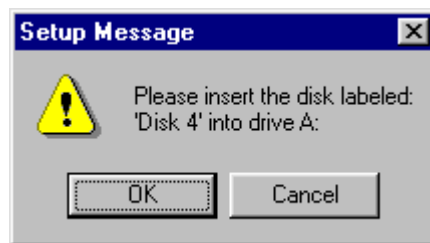

Figure 3.9
Step 8 Insert disk labeled Disk 4 (figure 3.9) into drive “A” or “B” and click on “**OK**” button.